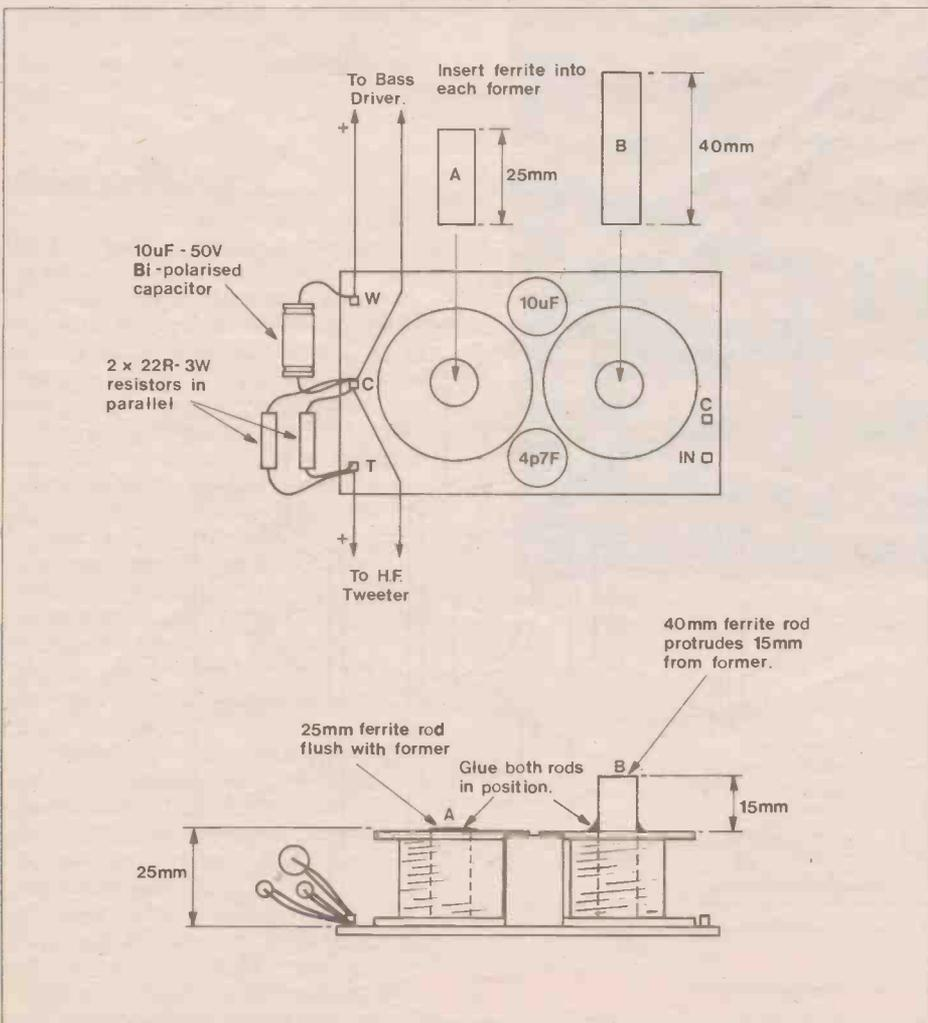
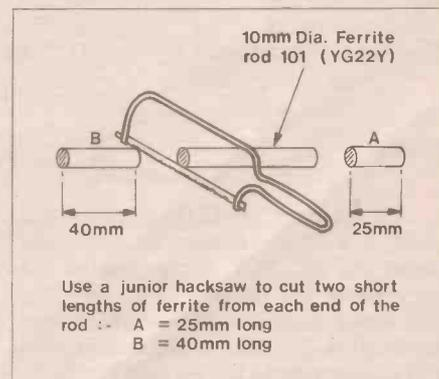

Figure 7. Modifying the crossover.
Figure 6. Cutting the ferrite rod.
With reference to Figures 6 & 7, take the 10mm ferrite rod and cut a piece (A) 25mm long and another piece (B) 40mm long, using a hacksaw. Ferrite is a very brittle material which breaks easily if dropped or excessive pressure is applied whilst sawing! Orientate the x-over module, as Figure 7, and insert (A) into the former, apply adhesive or hot melt glue around the edge of the rod, to hold in place. Insert (B) into the HF filter coil on the right hand side. The 40mm long rod protrudes about 15mm above the former; again run a fillet of adhesive around the edge as shown. The driver transducer piston is covered with an